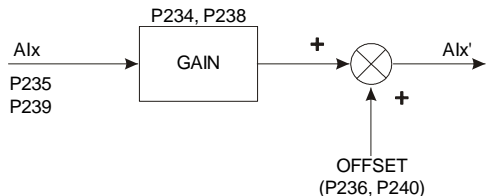

Figure 6.19 - Block diagram of the analog inputs AI1 and AI2
- ☑ This is shown in the figure 6.19.